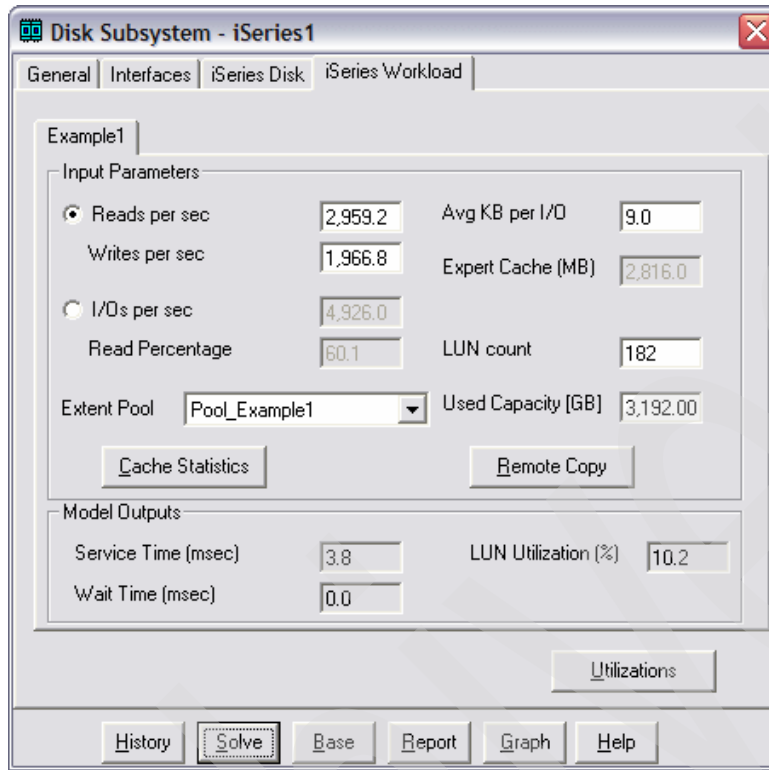
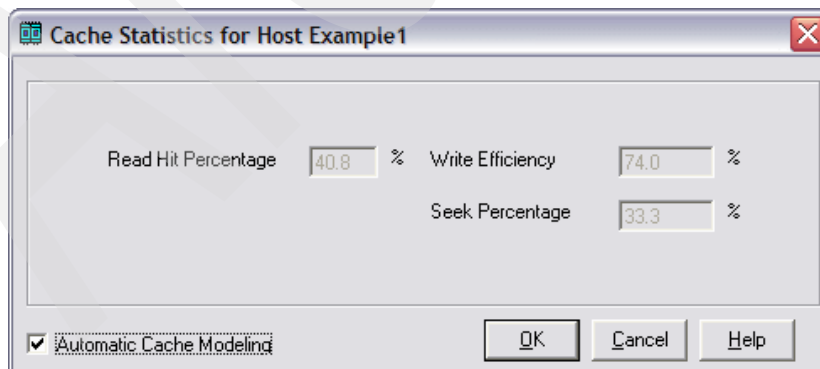

Figure 4-41 Modeled disk service time and wait time
Figure 4-43 Modeled cache hits
10. After you solve the model of the planned scenario, on the iSeries Workload tab (Figure 4-41), notice the modeled disk service time and wait time. Click **Utilizations**.
12. On iSeries Workload tab (Figure 4-41), click **Cache Statistics**. In the Cache Statistics for Host window (Figure 4-43), notice the modeled cache values on DS. In our example, the modeled read cache percentage is higher than the current read cache percentage with internal disks, but modeled write cache efficiency on DS is about the same as current rather high write cache percentage. Notice also that the modeled disk seek percentage dropped to almost half of the reported seek percentage on internal disks.